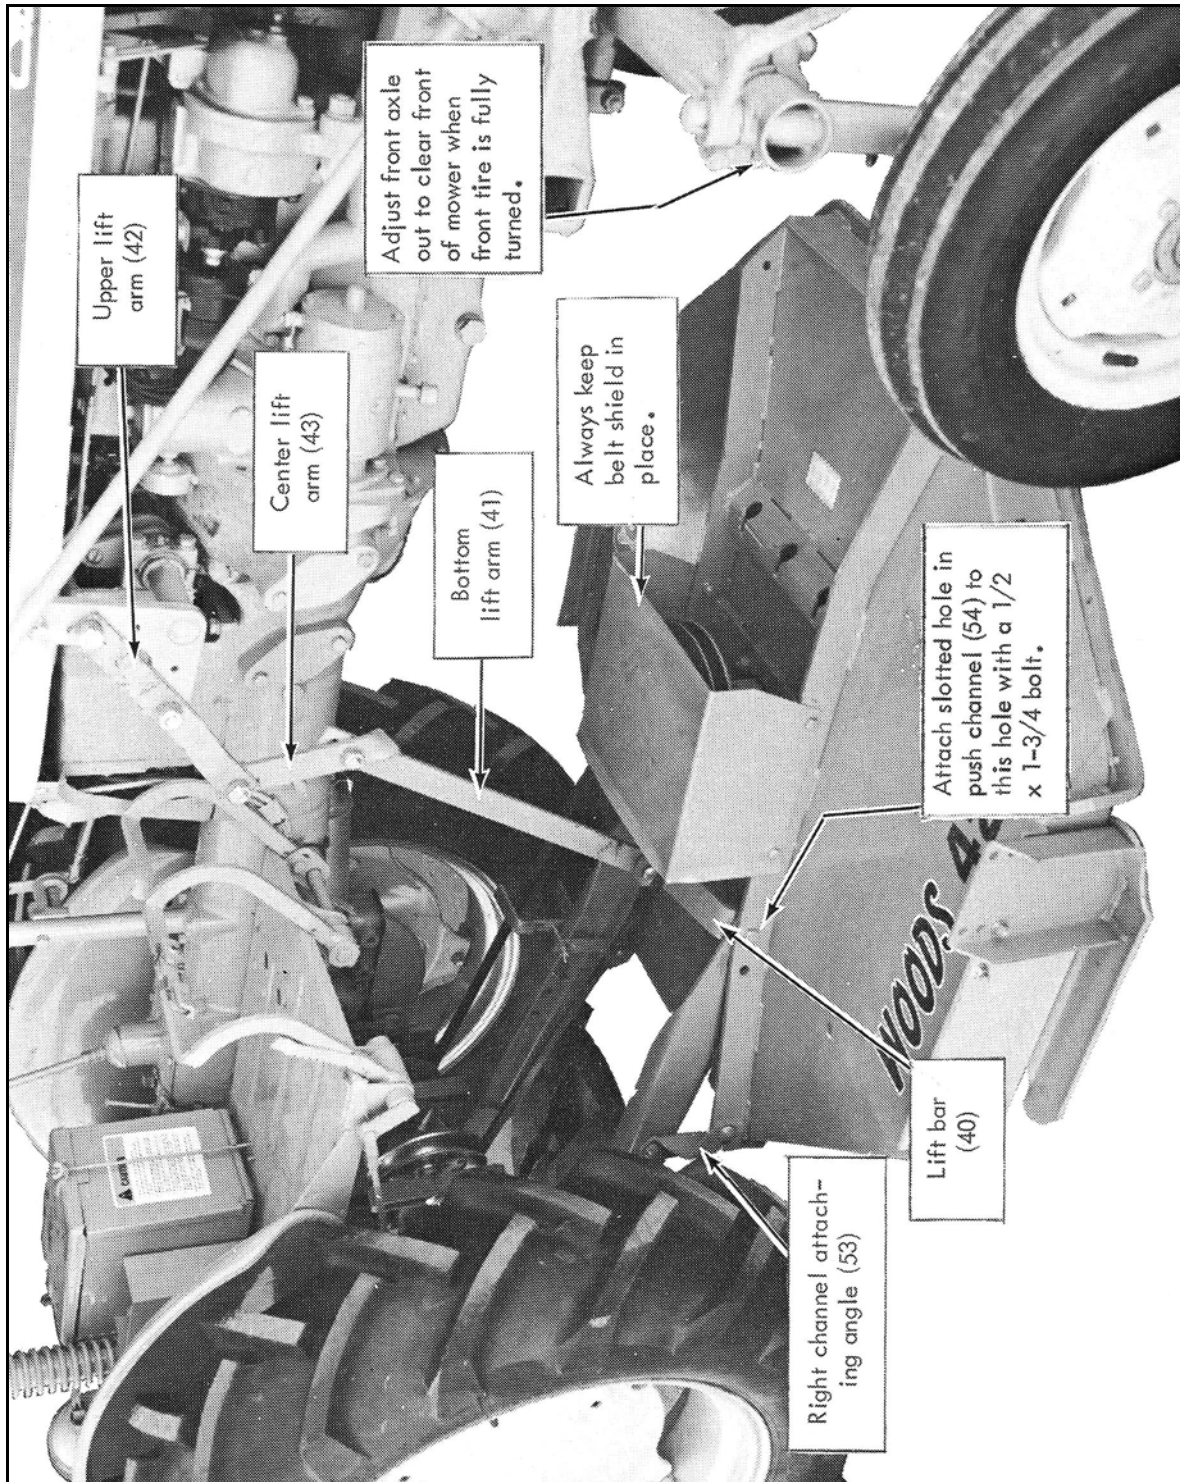

Figure 10. Lift Assembly Photo
Slide mower frame under tractor. Adjust front axle out to provide clearance of mower when turning. See Figure 10. Attach push channel arms (54) to idler bracket (46) with 5/8" x 1-1/2" clevis pins (92) and secure with safety pins (75). Tighten all push channel arm and mounting bracket hardware installed in Push Channel / Push Channel Mounting Angles and Lift Bars.